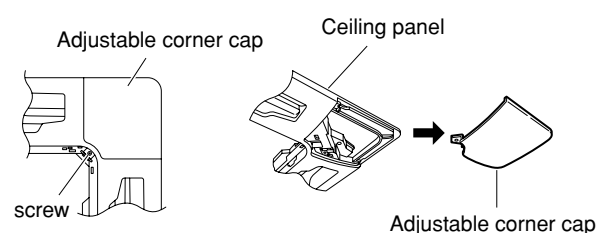

Fig. 11-2
- (1) Remove the intake grille.
- (2) Remove the screws that fasten the adjustable corner cap, then slide the adjustable corner cap to the side to remove it. (Fig. 11-2)